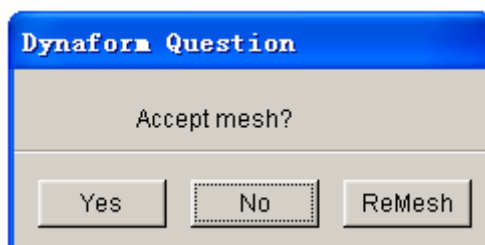

Figure 5.3.2 DYNAFORM Question dialog box
- Select a button in the eta/DYNAFORM Question dialog box as illustrated in Figure 5.3.2.